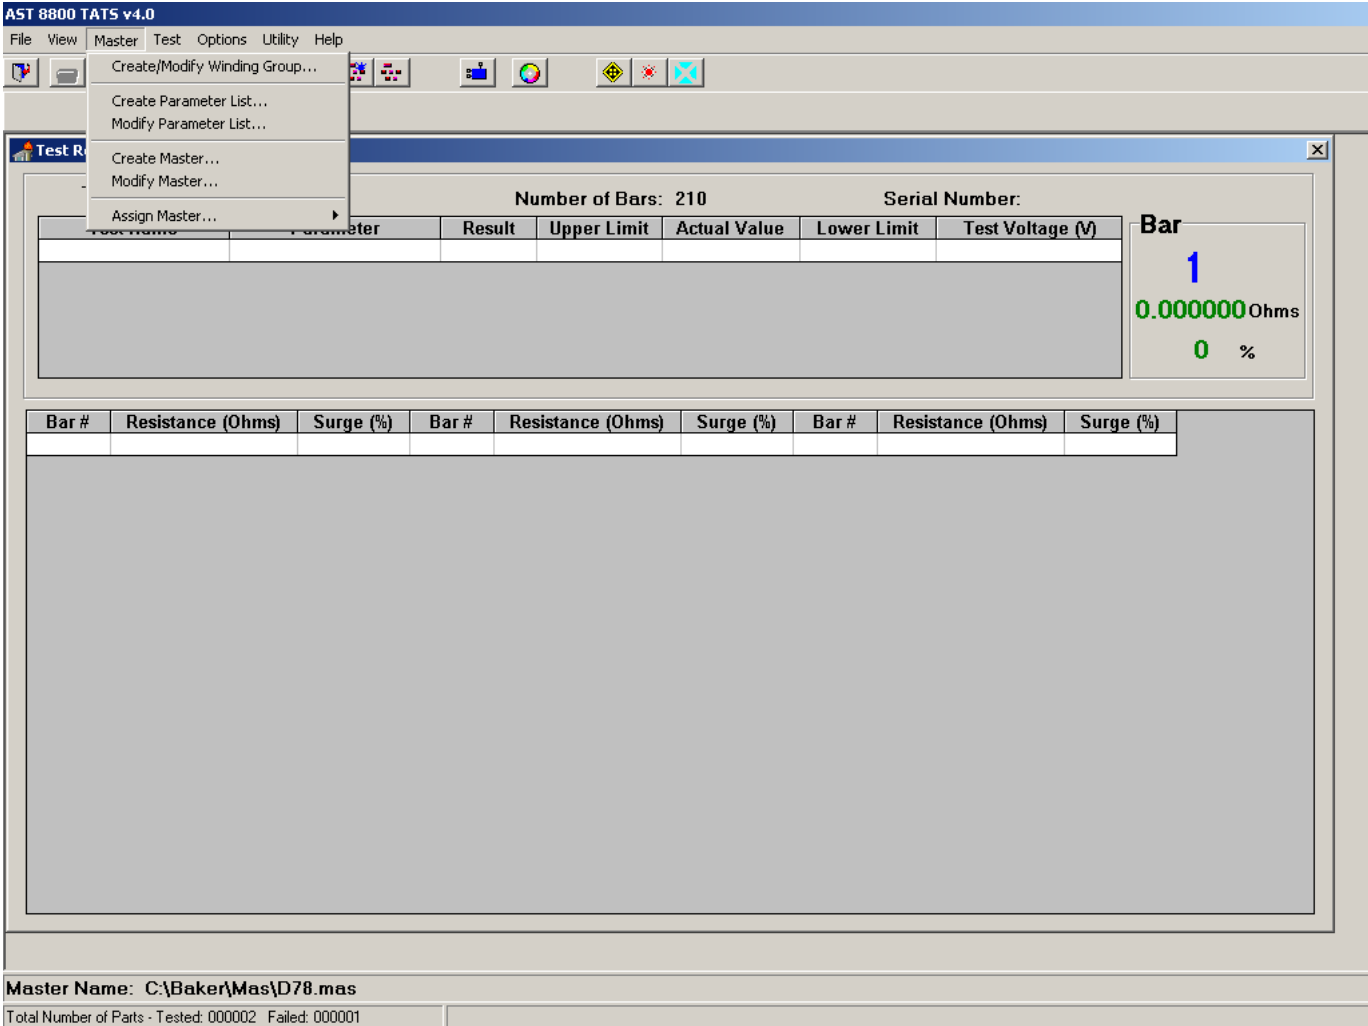

Fig 3: Menus.
5. The "Master" drop-down menu can also be used to assign a master, as shown in figure 3 above.